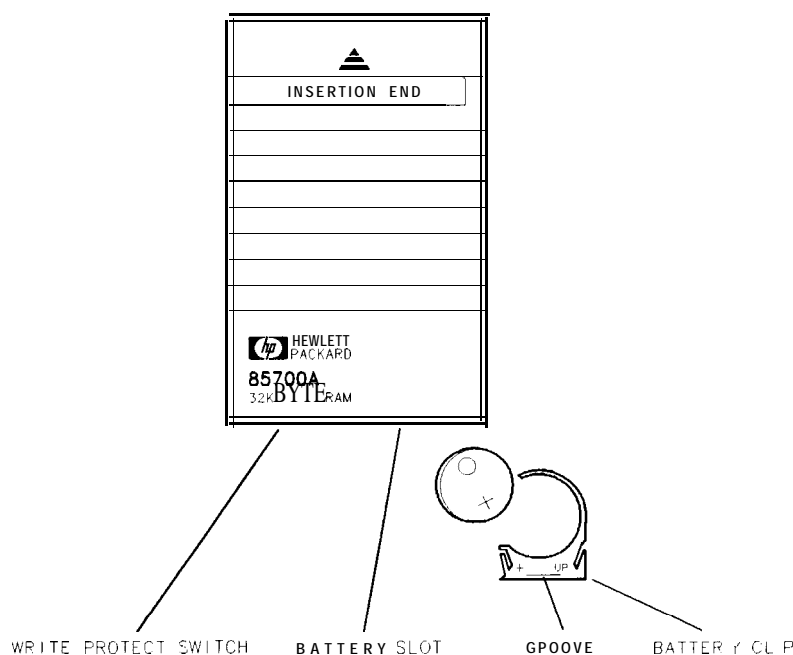

Figure 2-9. Memory Card Battery Replacement
1. Locate the groove along the edge of the battery clip. See Figure 2-9.
4. Insert the battery clip into the memory card, holding the clip as oriented in Figure 2-9.